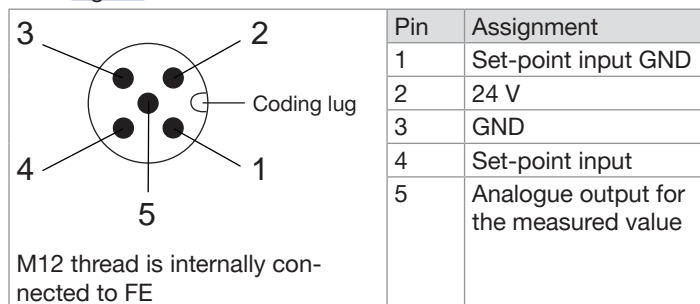

Fig. 19: Analogue MFC: Pin assignment, 5-pin M12 male connector (A coding)
- If your product is an MFC, wire the mating female connector according to the pin assignment of the M12 male connector in Fig. 19.